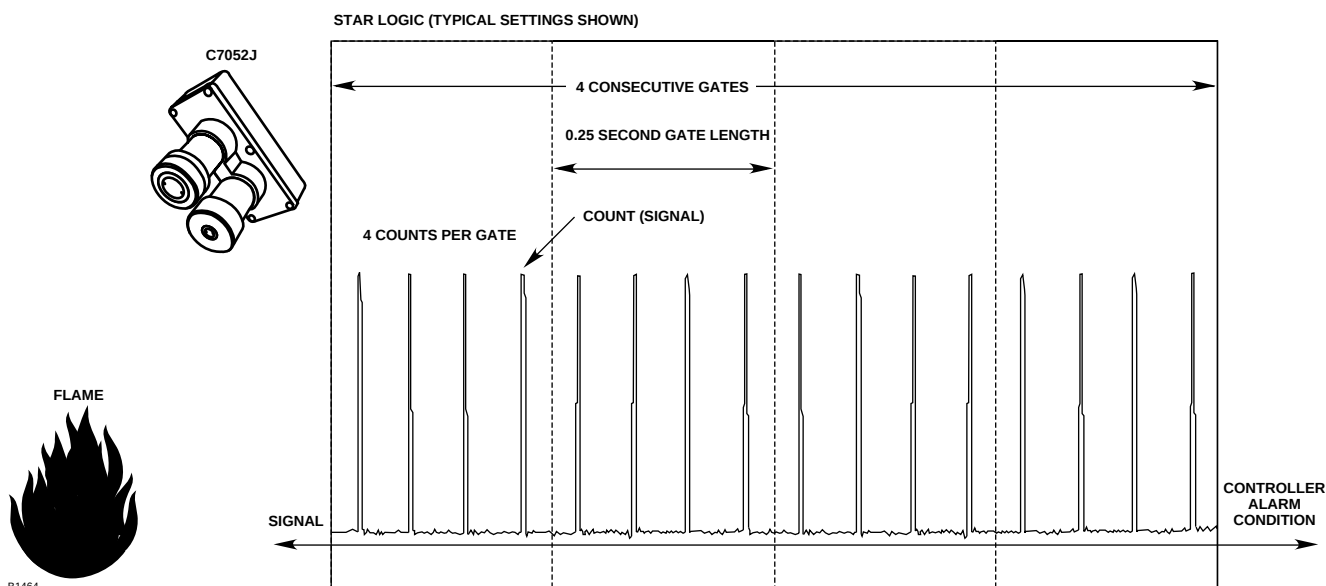

Figure 22—Graphic Representation of STAR Logic (Typical Settings Shown)
The most effective way to set system sensitivity is to install the system, program the STAR Logic according to the typical settings shown in Figure 22, program all other aspects of controller operation according to this section (“Programming the Controller”), then perform the “Initial and Periodic Checkout Procedure” using a UV/IR test lamp and the “STAR Programming Checkout Procedure.”. If the system fails to respond appropriately during these tests and all system wiring is correct, then system sensitivity (gate length, counts per gate, and consecutive gates) needs to be adjusted. It is important that all wiring and programmed settings be checked to ensure that they are correct before adjusting these settings.
Rocker switch assemblies 2 and 3 control three variables; gate length, counts per gate and consecutive gates required for a fire output. Refer to Figure 22 for a visual representation of how these variables function together with typical controller settings. Keep in
1. Gate Length is adjustable from 31.25 milliseconds to 8 seconds. The gate length is the increment of time that the controller looks at the detector signal to determine if the "Counts per Gate" requirement is fulfilled. In Figure 22, the gate length is 0.25 seconds (Rocker Switch 2-4 closed, Rocker Switches 2-1, 2-2, 2-3, 2-5, 2-6, 2-7, and 2-8 open).
2. Counts per Gate is adjustable from 2 to 15 counts. These counts make up the signal from the detector and are a direct response to a flame or other UV/IR source. In Figure 22, the counts per gate setting is 4 counts (Rocker Switch 3-3 closed, Rocker Switches 3-1, 3-2, and 3-4 open).
3. Consecutive Gates required for a fire output are adjustable from 2 to 15 gates. This is the number of consecutive gates in which the "Counts per Gate" requirement is fulfilled that the controller must see before going into a fire alarm condition. In Figure 22, the consecutive gates setting is 4 gates (Rocker Switch 3-7 closed, Rocker Switches 3-5, 3-6, and 3-8 open).